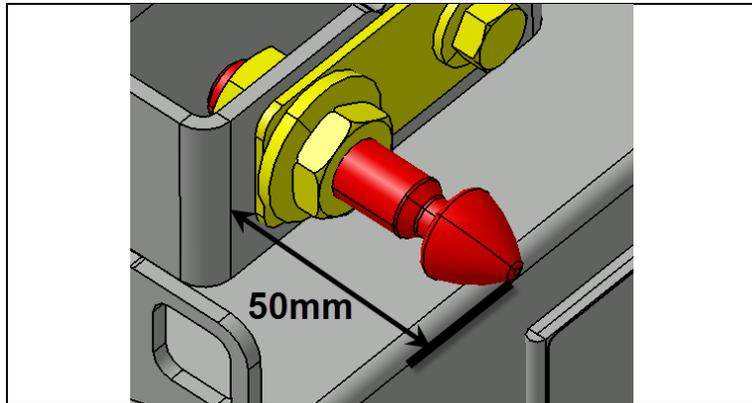

FIGURE 12
11. Before adjusting the pin, make sure that it doesn't exceed more than 2" (50mm) at the first closing of the door (FIGURE 12). Damage to the door can result if this condition is not respected.